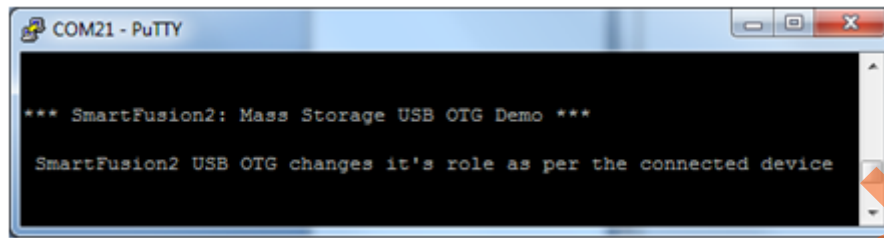

Figure 8 • UART Message
- On successfully programming the SmartFusion2 device using FlashPro, the serial terminal emulation program shows the initialization messages as shown in Figure 8. The SmartFusion2 USB OTG controller is now set to perform the USB OTG functionality.